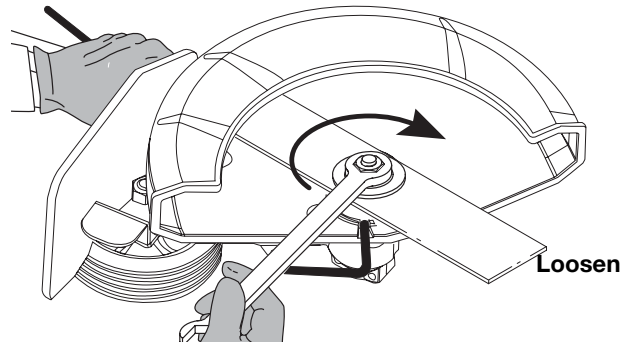

Fig. 9
3. While holding the locking rod, loosen the nut on the blade by turning it clockwise with a 5/8 inch wrench (Fig. 9). Remove the nut, retaining washer and blade. Keep the nut and blade retainer for installation.